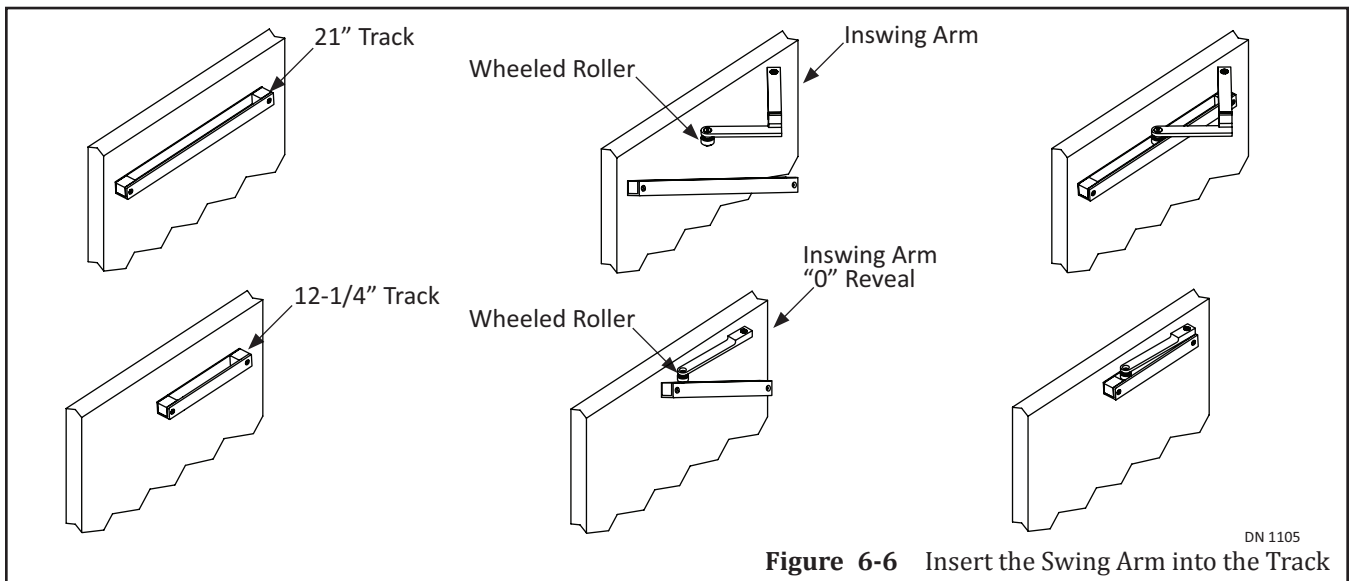

Figure 6-6 Insert the Swing Arm into the Track
1. Remove the first 1/4-20 x 2-1/4" Screw (closest to the Pivot Door Jamb) that is used to secure the Track to the Swing door. Please see Figure 6-6.
4. Secure the Track to the Swing door with (1) 1/4-20 x 2-1/4" Screw.